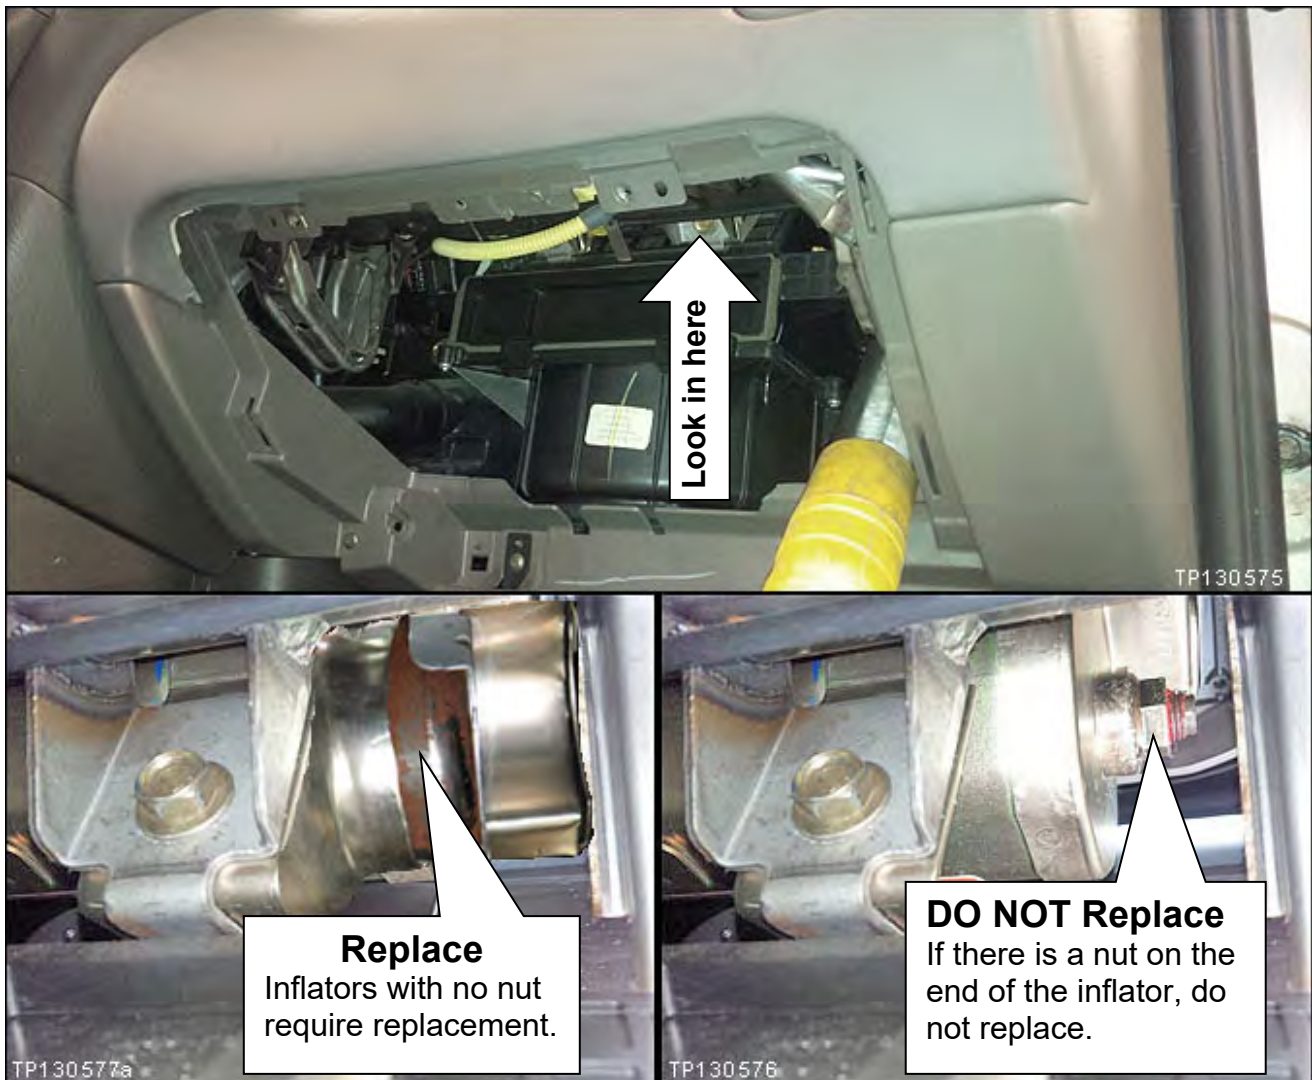

Figure 2
6. Look up into the dash (see Figure 2) and locate the right side of the module inflator.